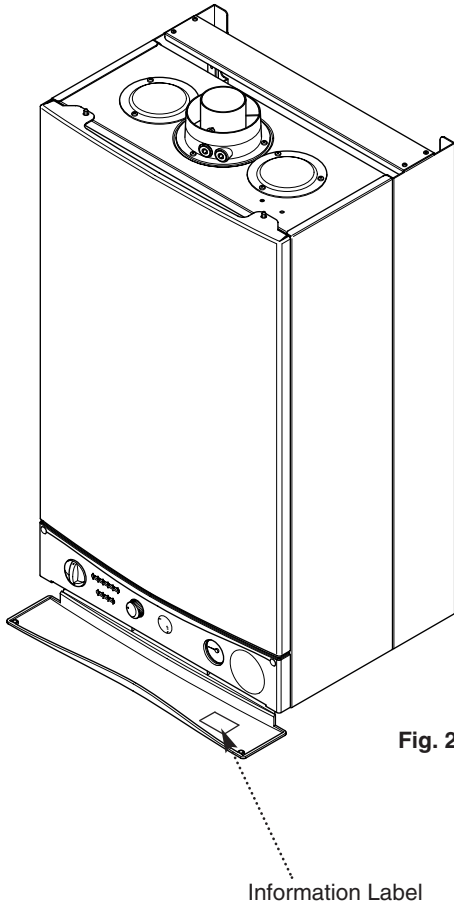

Fig. 20
3. The name, model number and serial number can be found on the information label on the back of the hinged lower door (Fig. 20).